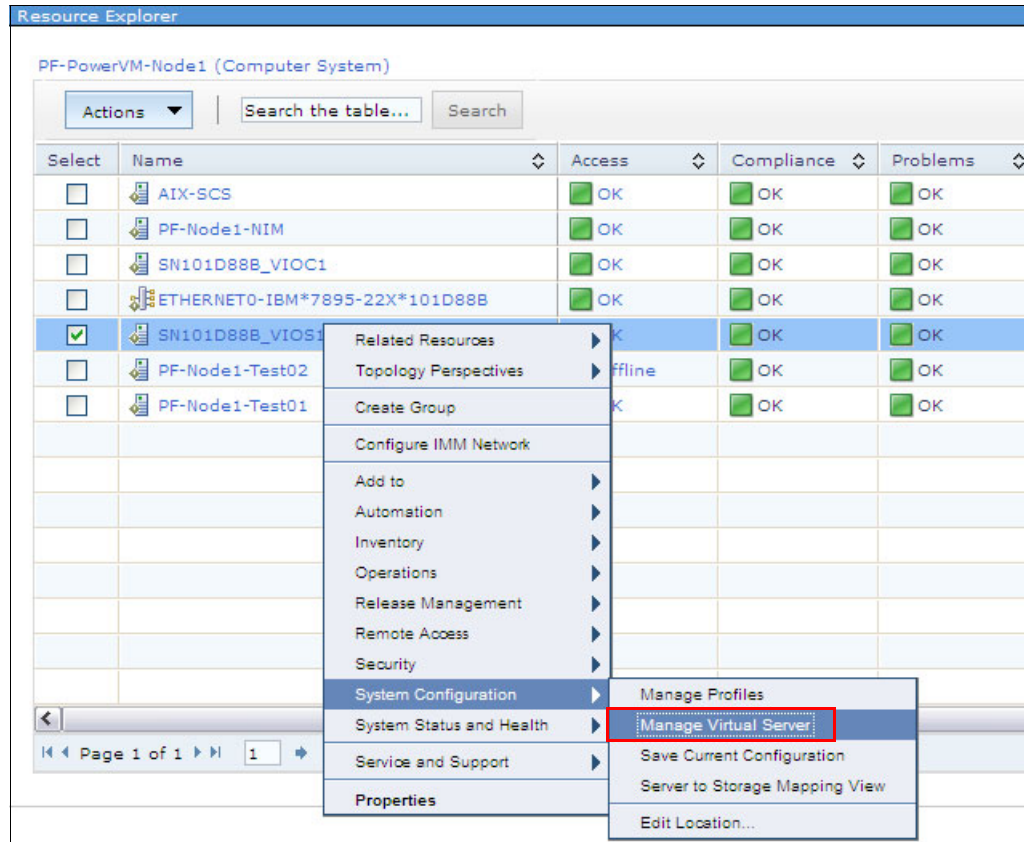

Figure 10-161 Launch Virtual Server settings
1. Click **Manage Virtual Server** to check the VIOS profile settings as shown in Figure 10-161.